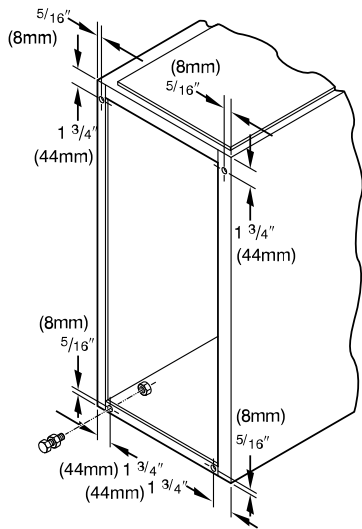

Fig. 10 – Leveling Legs
In upflow position with side return inlet(s), leveling legs may be used, see Fig. 10. Install field-supplied, 5/16 x 1-1/2 in. (8 x 38 mm) (max) corrosion-resistant machine bolts, washers and nuts.
1. Position furnace on its back. Locate and drill a hole in each bottom corner of furnace, see Fig. 10.